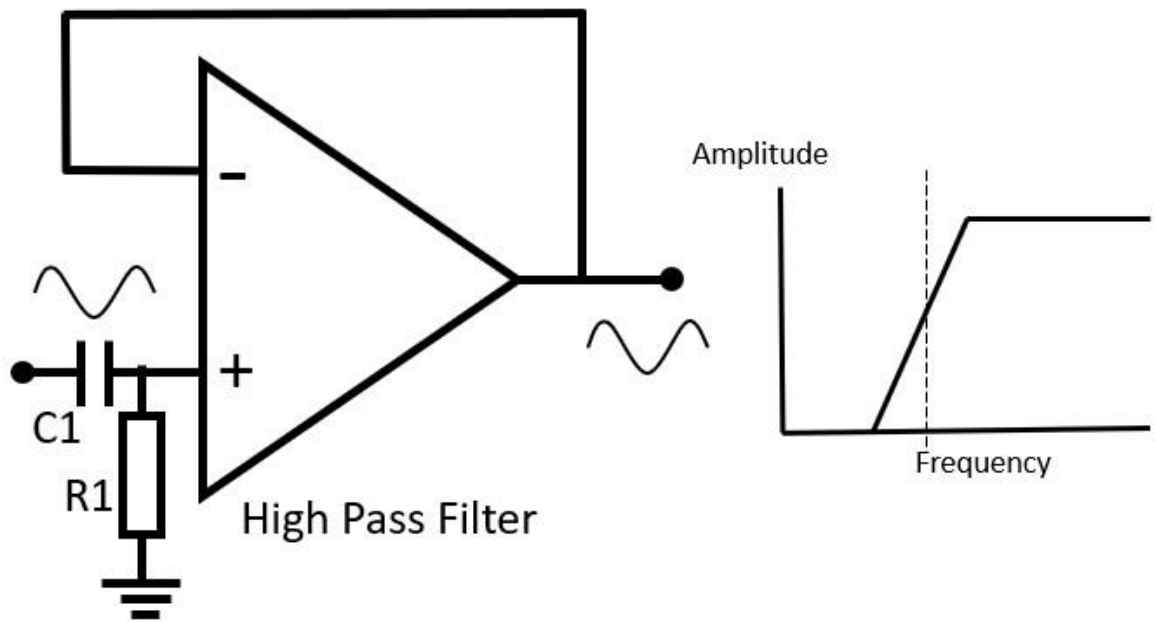

Figure 9: High Pass Filter.
8. THE High pass filter is a unity gain amplifier passing the frequencies higher than that determined by R_1 and C_1 (Figure 9).